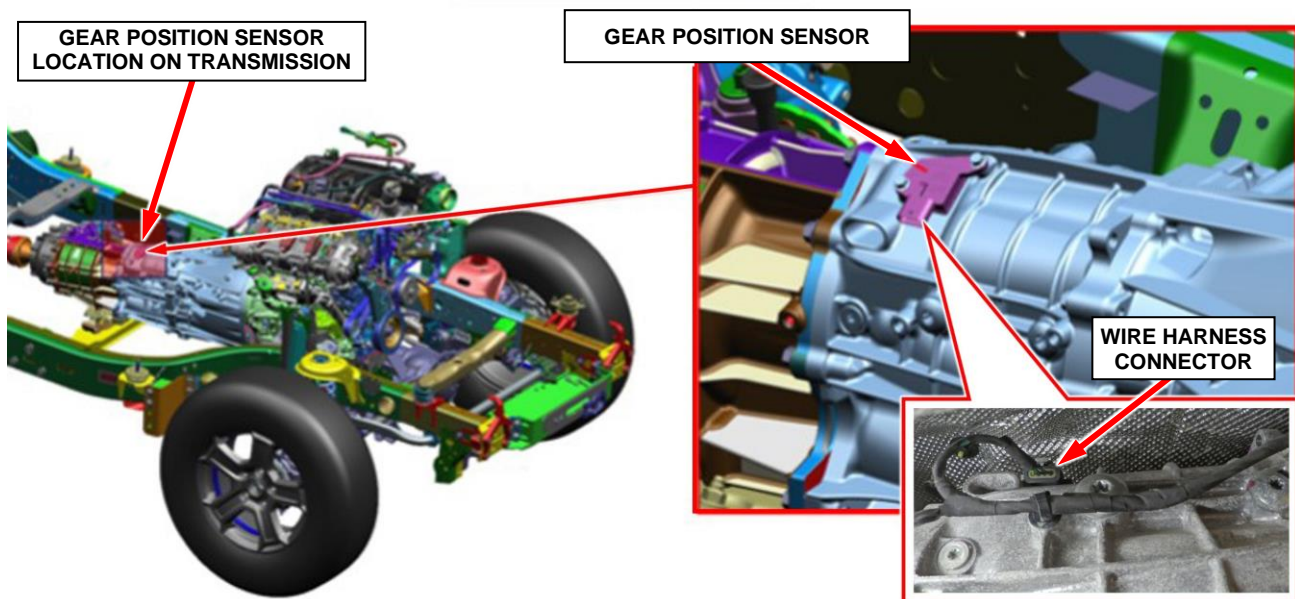

Figure 1 – Gear Position Sensor
4. Disconnect the gear position sensor wire harness connector (Figure 1).
5. Remove and **DISCARD** the two bolts securing the gear position sensor to the transmission then remove the gear position sensor from the transmission (Figure 1).
7. Position the **NEW** gear position sensor to the transmission, then install the gear position sensor using **NEW** bolts and tighten to 3 N·m (24 In. Lbs.) (Figure 1).
8. Connect the gear position sensor wire harness connector (Figure 1).